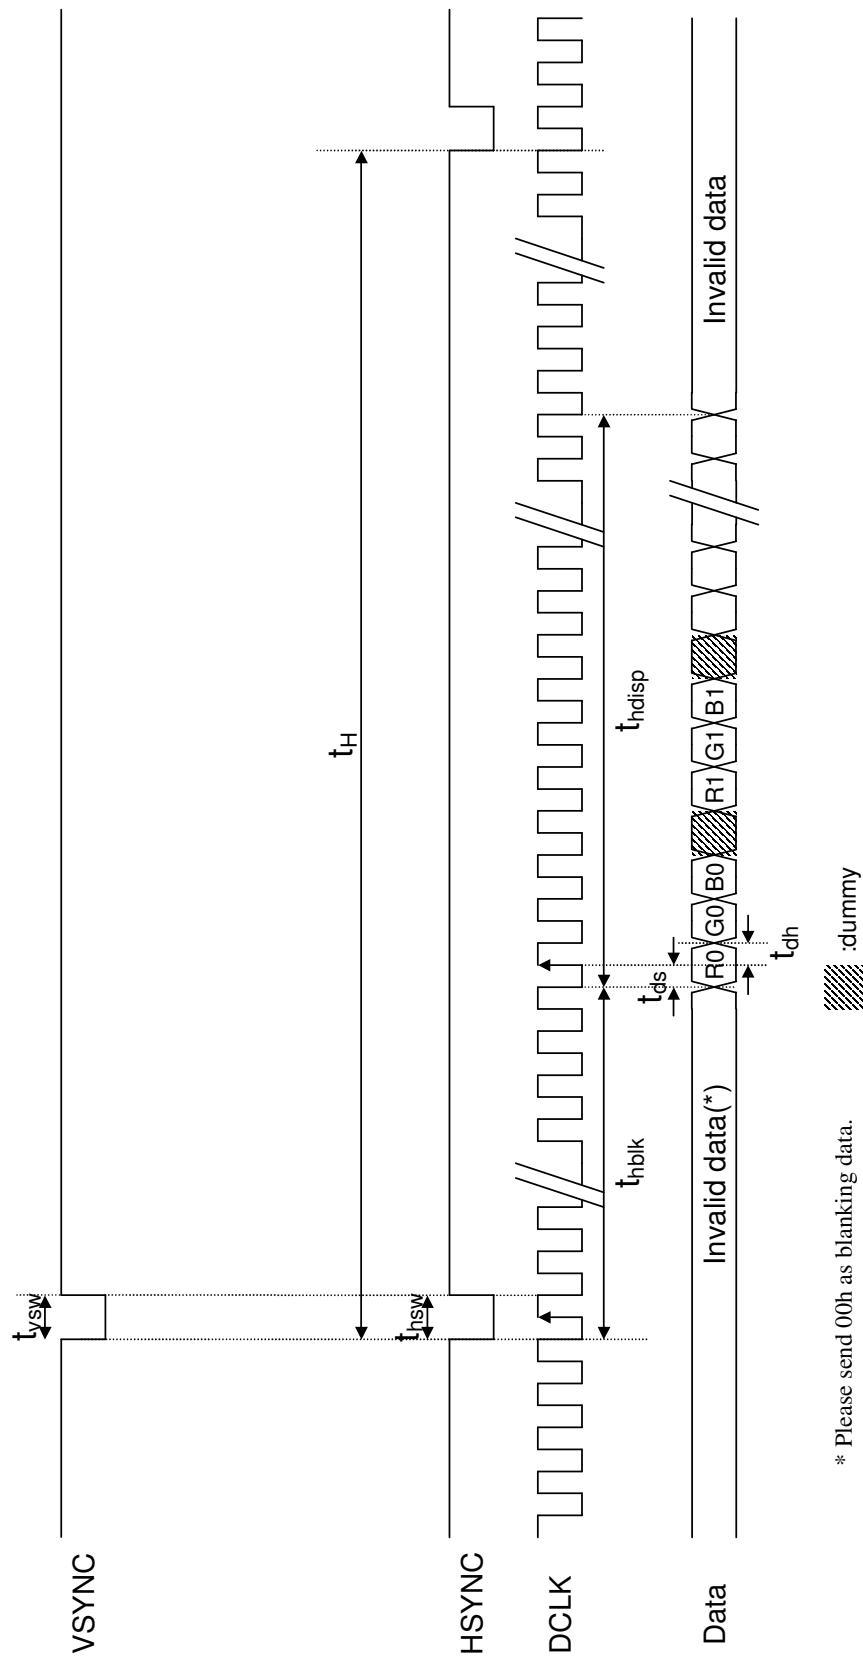
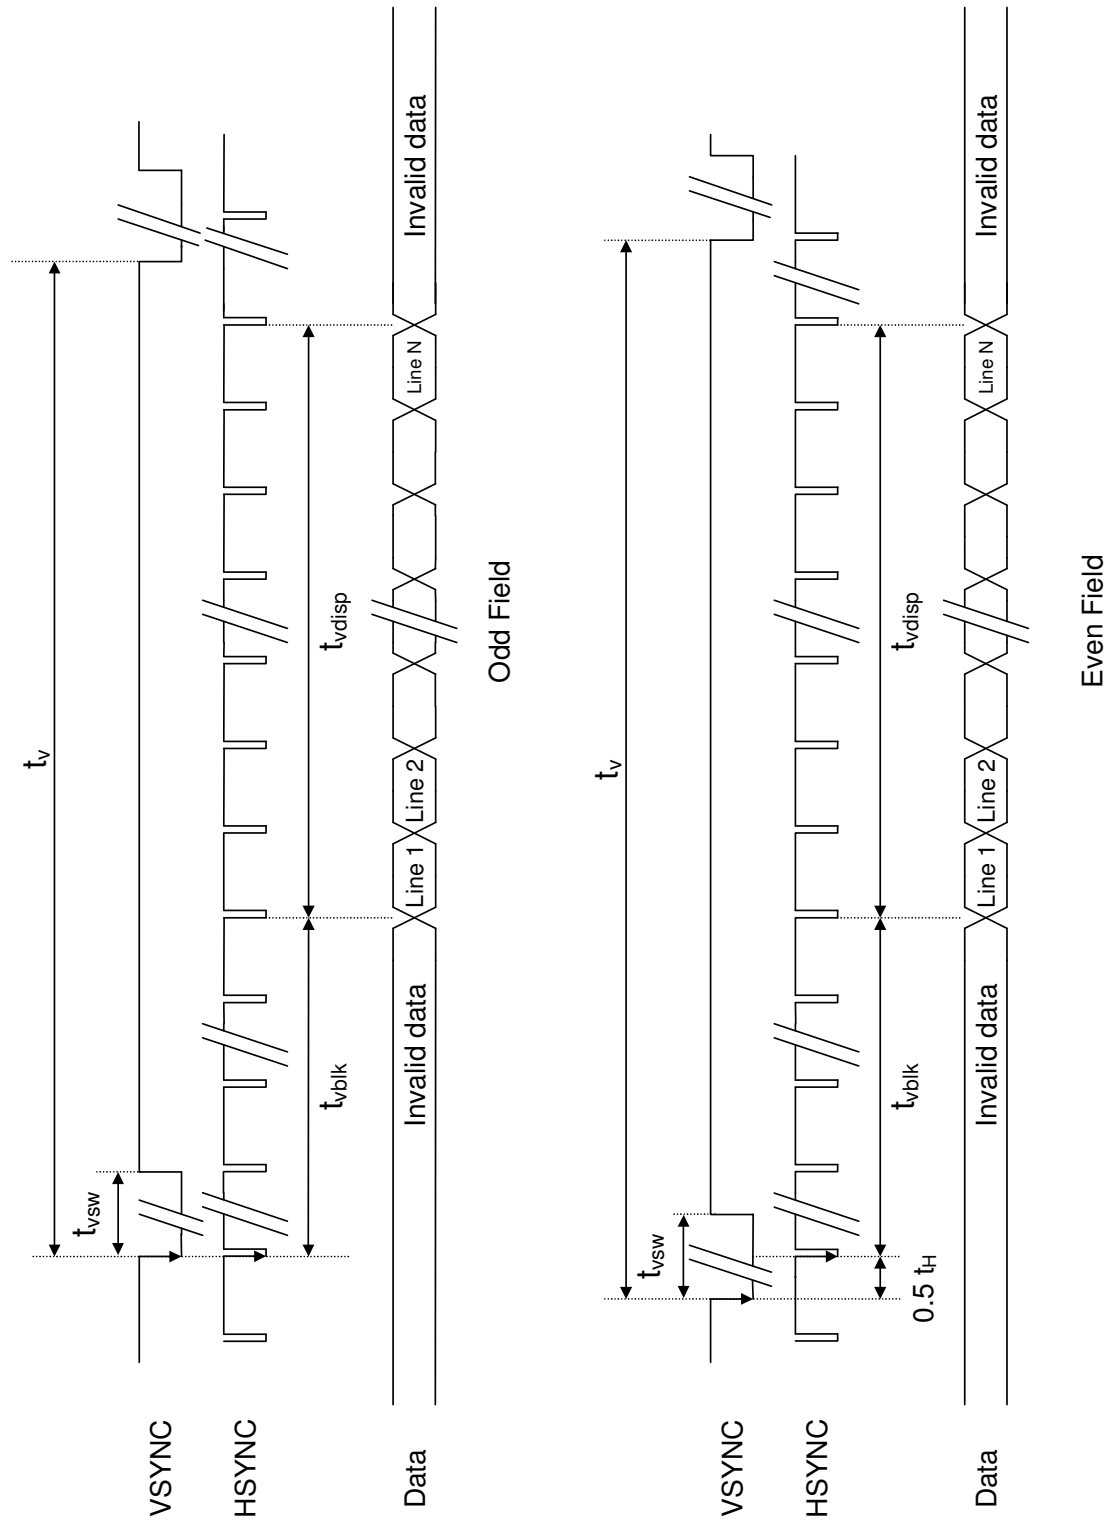

Fig. 3 UPS052 Input Horizontal Signal
Fig. 4 UPS052 Input Vertical Signal
c. UPS052 (320 mode/NTSC/24.535MHz) timing specifications (refer to Fig. 3, Fig. 4)
d. UPS052 (320 mode/PAL/24.375MHz) timing specifications (refer to Fig. 3, Fig. 4)
e. UPS052 (360 mode/NTSC/27MHz) timing specifications (refer to Fig. 3, Fig. 4)
f. UPS052 (360 mode/PAL/27MHz) timing specifications (refer to Fig. 3, Fig. 4)